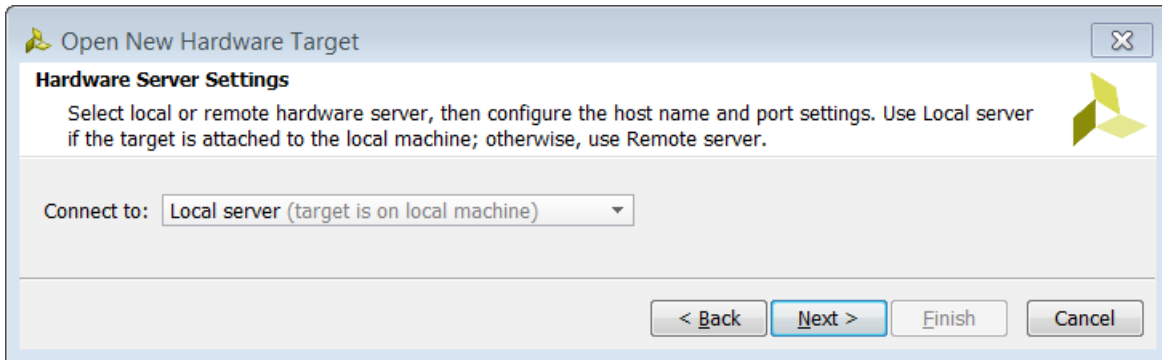

Figure 83: Specify Server Name
4. On the Hardware Server Settings page, ensure that the **Connect to** field is set to **Local server (target is on local machine)** (FIGURE 83).